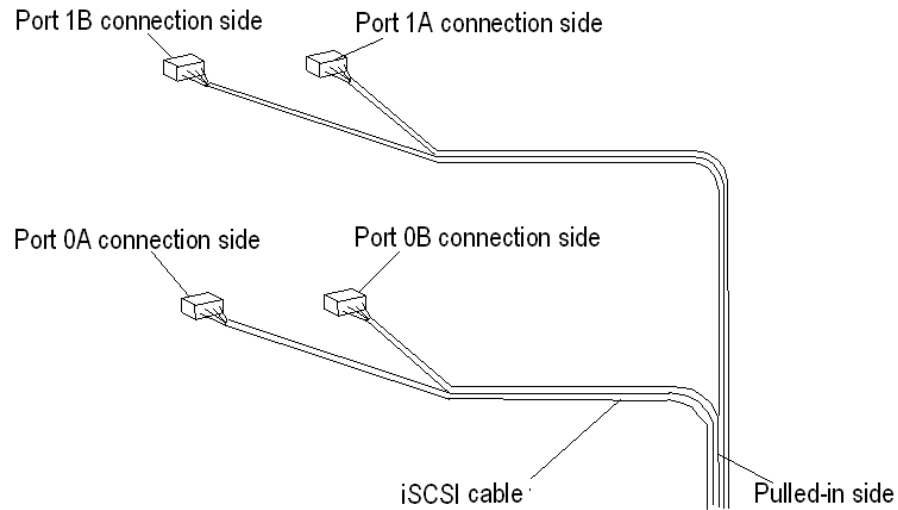

Figure 5-48: Binding iSCSI Cables Together
- Using the reusable cable ties provided, bind the cables together and fasten them securely to the rack at enough places to keep the cables close to the rack over their entire length. Leave extra length for each cable so that the connectors will not be pulled out of the sockets. See Figure 5-48.